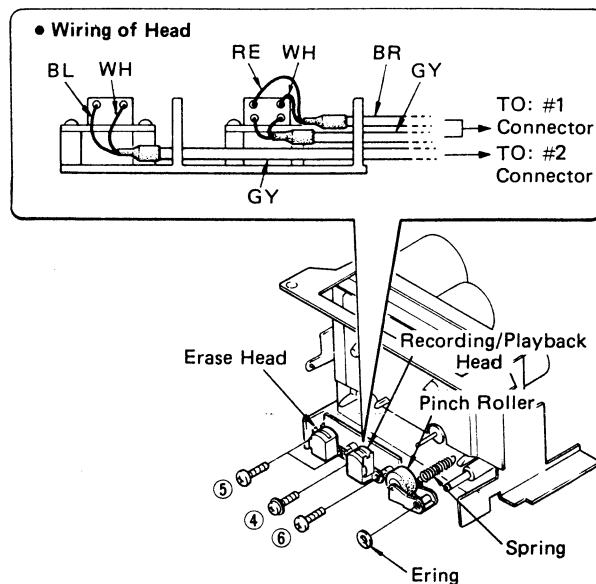

Fig. 2
- Remove 2 screws (④) in Fig. 2 and then remove the Recording/Playback Head.
- Remove 2 screws (⑤) in Fig. 2 and then remove the Erase Head.
- Remove the E ring (⑥) in Fig. 2.